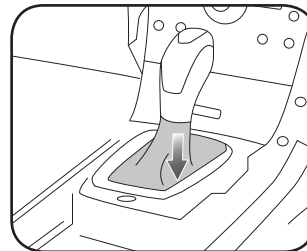
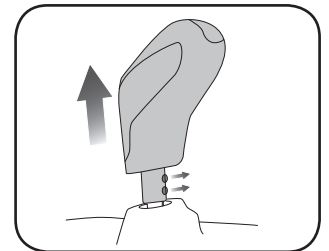

Fig. 1.3
Fig. 1.4
3. Pull down on the shifter boot (Fig. 1.3) and remove the two Phillips screws securing the shifter in place. Remove the shift knob. (Fig. 1.4)